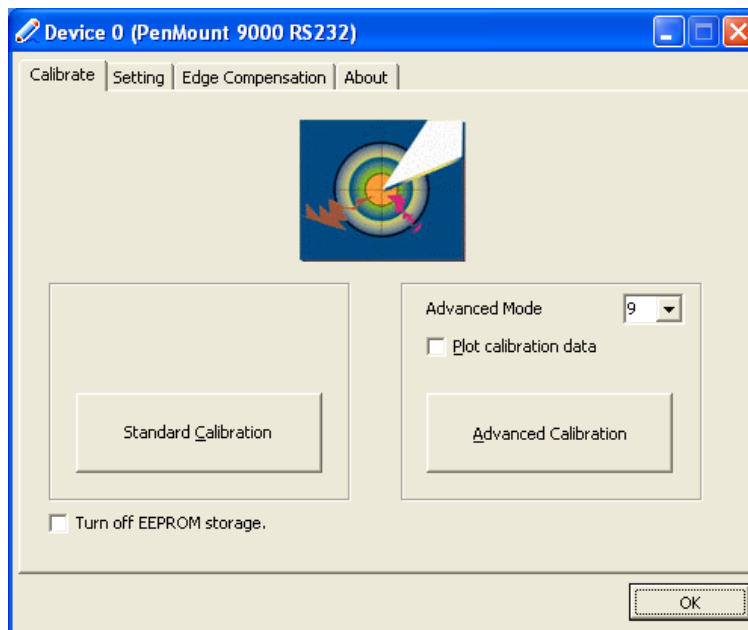

Figure 7-25: Calibration Initiation Screen
Step 7: The calibration initiation screen in **Figure 7-25** appears.
Step 8: Select the **Standard Calibration** button as shown in **Figure 7-25**.